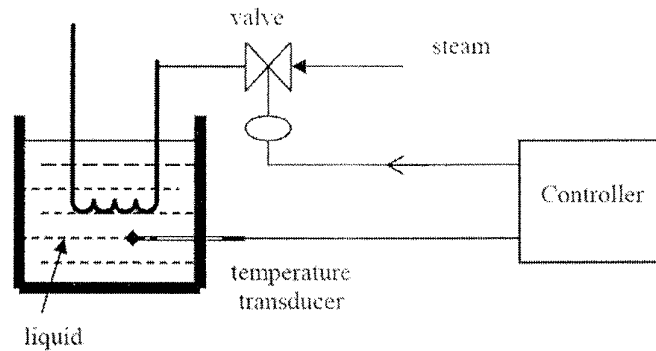

Figure 1(b)
- (b) Figure 1(b) shows a system for controlling the temperature of a liquid in a chemical processing plant (with $G(s)$). The liquid is heated by steam and a temperature transducer (gain K_T) measures the temperature. A controller (gain K_C) detects the error between the set point and measured temperature of the liquid and accordingly operates a control value (assume that it is linear with gain K_V) in the steam supply line.